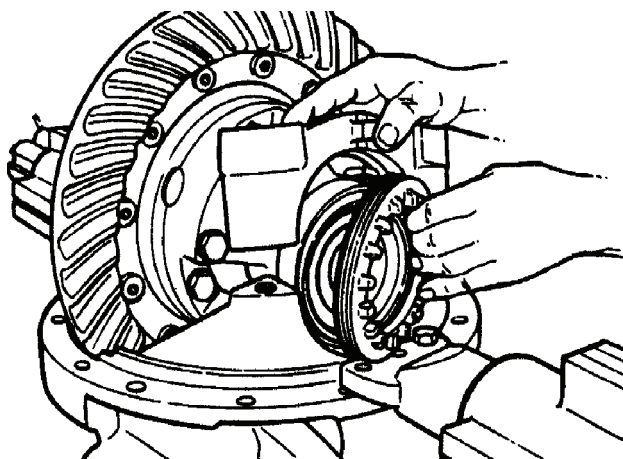

Figure 31. Bearing Caps and Adjusting Rings Removal.
- (6) Remove the bearing caps, the adjusting rings and the bearing cups from the differential carrier. Figure 31.